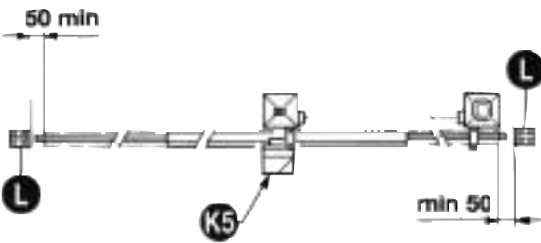
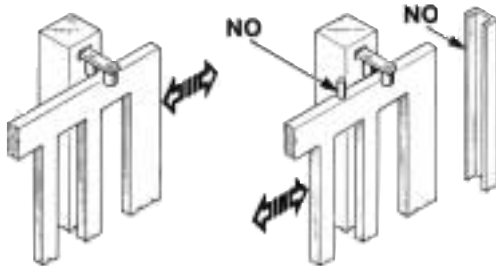

Fig. 2
Fig. 3
- Besides the electrical or mechanical limit switches available on the operators, there must be, on both ends of the installation, a fixed mechanical stopper which stop the gate in the unlikely event of ill functioning of limit switches on the operators. For this reason the fixed mechanical stopper must be of an adequate size to withstand the static and kinetic forces generated by the gate (Fig.2).
The guide must be provided with two mechanical stops at its ends (12) (Fig. 2). Gate columns shall have anti-derailment guides on their top (Fig. 3), to avoid the unintentional gate release.
**N.B.:** Eliminate those mechanical stops of the kind described by figure 3. No mechanical stop shall be on top of the gate, since mechanical stops are not safe enough.